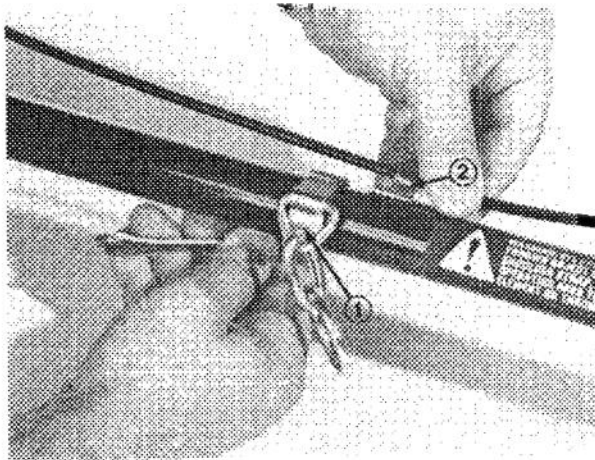

Figure 13
7. Loosen bolt securing hanger holder, slide flat portion of cable clamp under raised portion of holder and tighten bolt (Fig. 13).